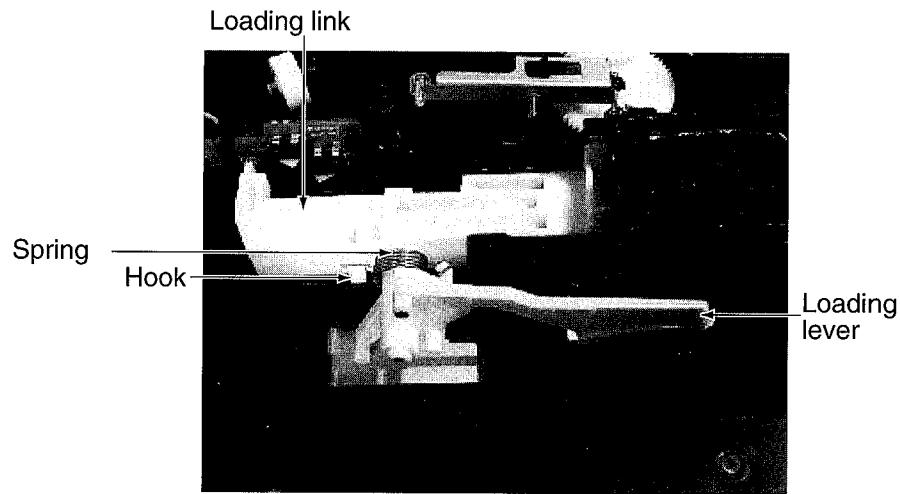

Fig 24
- 1) According to Figure 24 ,mount the spring on the loading lever.
- 2) Insert it in the loading link in the direction shown in Figure 24. Here hook the spring on the claw of the loading link.(This operation shali carefully be done so that the lever is not lifted,for example,by pinching the spring brtween the link the lever.)